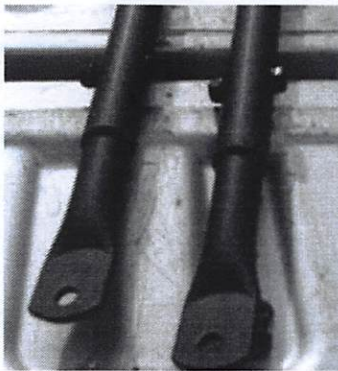

Figure 21: The headache tubes properly assembled
Step 26: To assemble the headache outer tube start by sliding the headache end fitting into the headache outer tube (do this with the headache fitting that is not installed onto the vehicle). Then secure the outer tube and the fitting together using (1) M10x50 bolt, (2) M10 washers, and (1) M10 lock nut leave hand tight. Repeat for the other side of the vehicle. Figure 21 shows the headache tubes properly assembled.